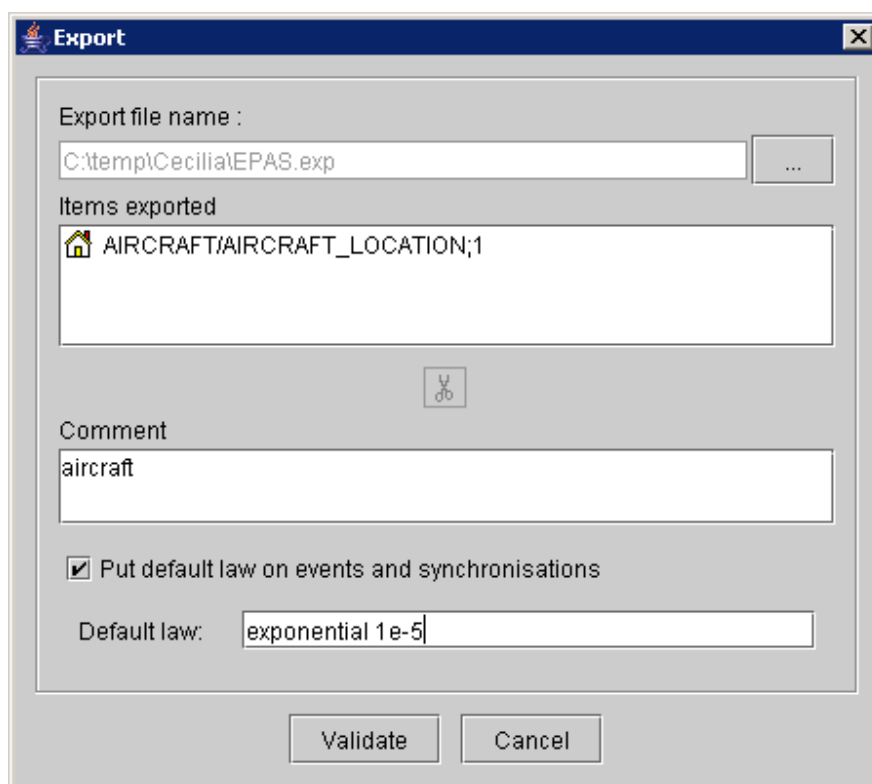

Figure 162 : XML export setup
- Activate the export setup window (Figure 162) with the **Export** command of **File** menu.